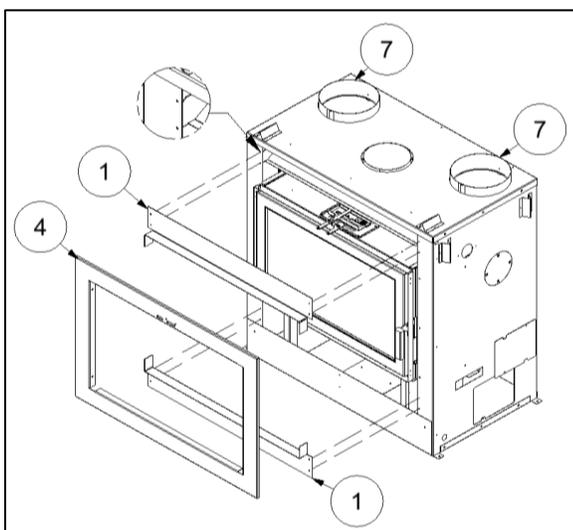

Figure 3-14: Clean Face Surround Installation
2. Align the bottom Clean Face front cover (Item 1) and fasten it in place (Figure 3-14).
3. Align the top Clean Face front cover (Item 1) and fasten it in place (Figure 3-14).